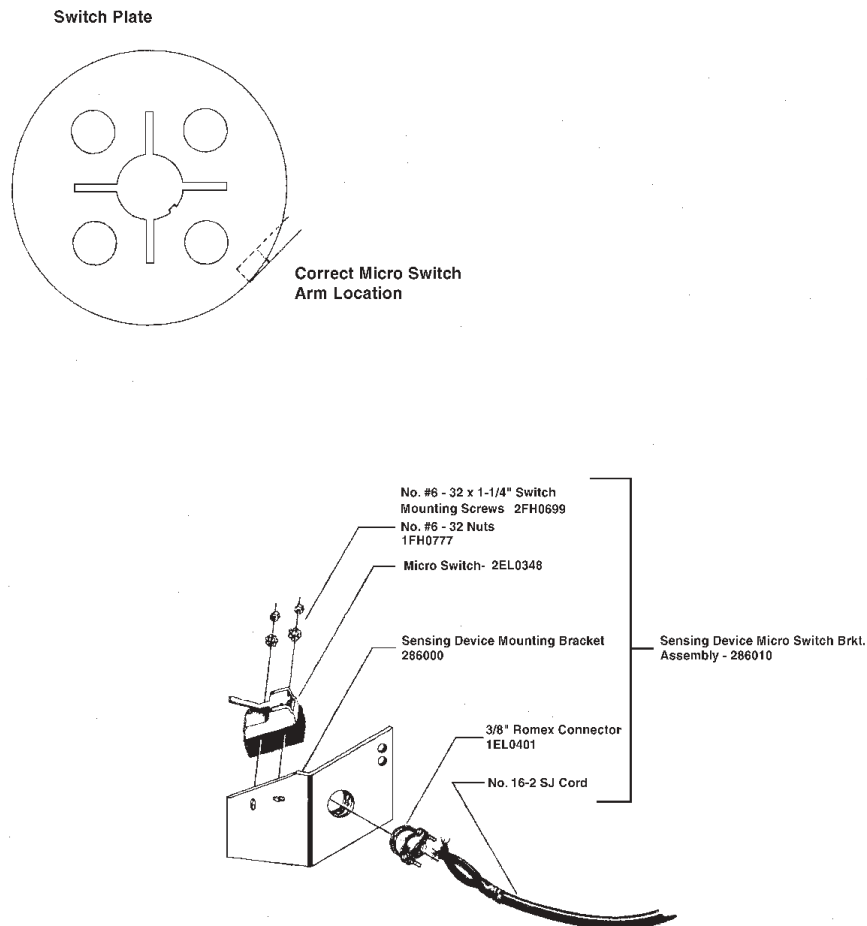

Figure 5-1 Micro Switch
1. Refer to Figure 5-1 and install the two Micro Switch Bracket Assemblies, one on each of the two end augers. Use the  $\frac{1}{4}$ " x  $\frac{3}{4}$ " Bolts (2FH0803), Nuts (1FH0763), and Lock Washers (3FH0789) found in the Sensing Device Bracket Package (286501). Bolt to the right hand side of the auger bolting plate.